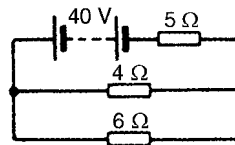

Figure 13.49
- 2 Use Thévenin's theorem to find the current flowing in the 6 Ω resistor shown in Fig. 13.49 and the power dissipated in the 4 Ω resistor.